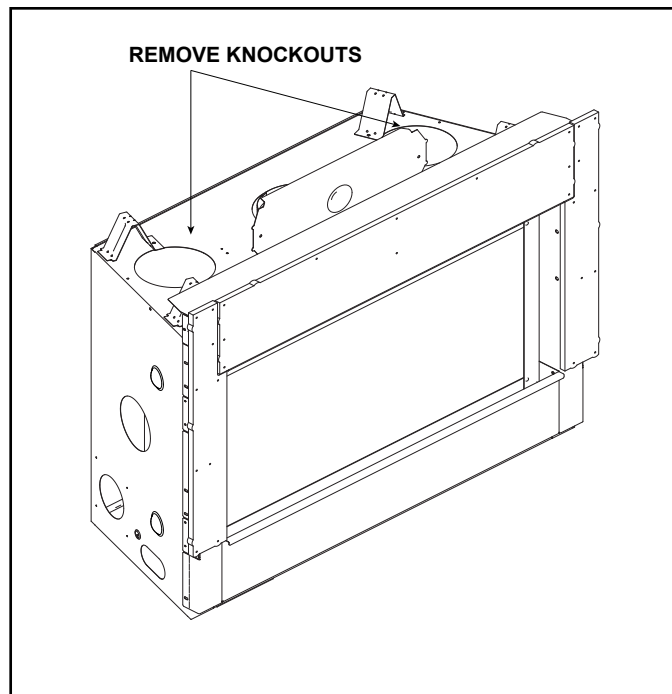

Figure 6.5 Proper Positioning, Leveling And Securing Of Appliance
- Center the duct collar or passive heat adapter around the exposed hole and attach it to the appliance. See Figure 6.5.
Passive Heat may be used with HEAT-OUT-GAS or one HEAT-ZONE®-GAS. The dedicated knockouts, as shown in Figure 6.5, must be used only as indicated. Passive Heat cannot be used with an optional fan.